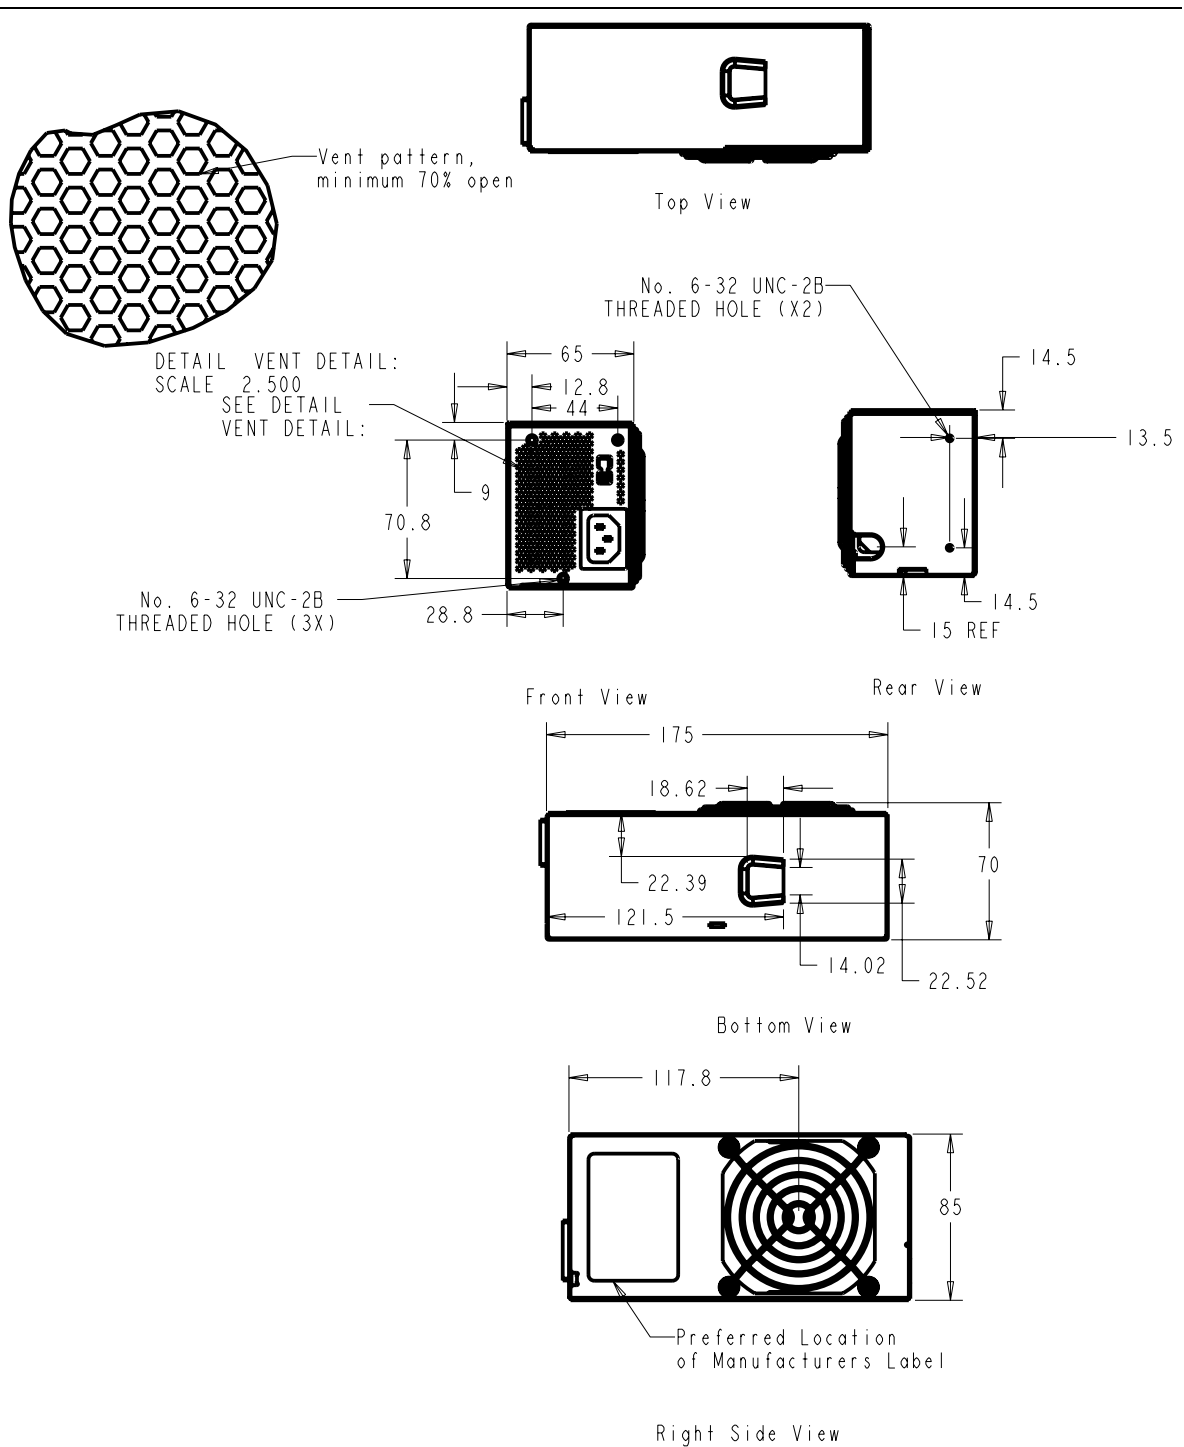
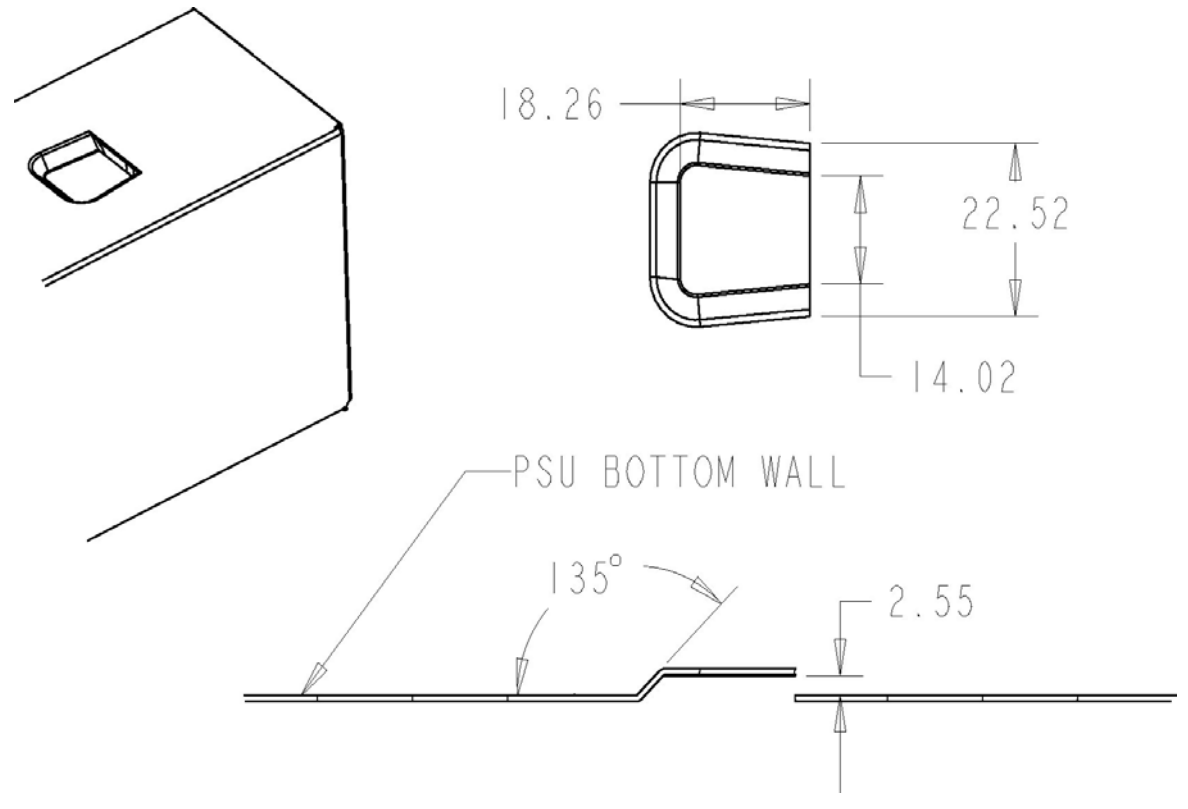
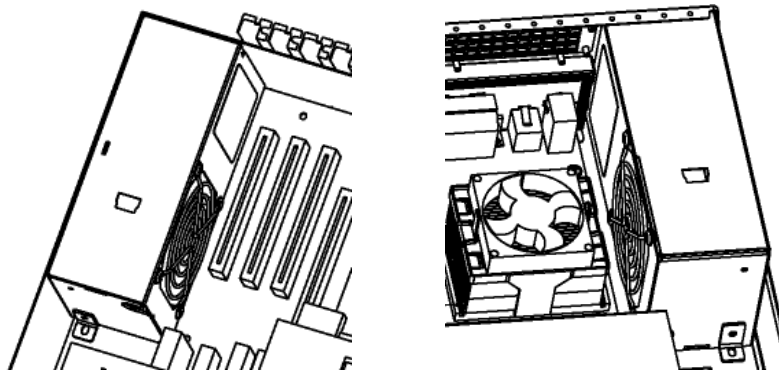

Figure 10. Power Supply Dimensions and Recommended Feature Placements (not to scale)
Figure 11. Power Supply Mounting Slot Detail
Figure 12. Fan Right and Fan Left Orientations of Power Supply in a Chassis
The power supply shall be enclosed and meet the physical outline shown in Figure 10, as applicable.
The TFX12V mechanical design provides two options for mounting in a system chassis. The unit can be mounted using one of the mounting holes on the front end (non-vented end) or a chassis feature can be designed to engage the slot provided in the bottom of the supply. In order to accommodate different system chassis layouts, the TFX12V power supply is also designed to mount in two orientations (fan left and fan right) as shown in Figure 12. A mounting hole and slot should be provided for each orientation as shown in Figure 10. Details of a suggested geometry for the mounting slot are shown in Figure 11.
Fan location/direction: In general, exhausting air from the system chassis enclosure via a power supply fan is the preferred, most common, and most widely applicable system-level airflow solution. The location of the fan can have a large effect on how efficiently this air is exhausted. The location of the fan shown in Figure 10 allows the fan to be located close to the processor cooling solution when used in the common fan left configuration shown in Figure 12. This close proximity of the fan will aid in the evacuation of heated air and helps keep the total system cooler.
Fan size/speed: The TFX12V power supply has an 80 mm axial fan as shown in Figure 10. It is recommended that a thermally sensitive fan speed control circuit be used to balance system-level thermal and acoustic performance. The circuit typically senses the temperature of the secondary heat sink and/or incoming ambient air and adjusts the fan speed as necessary to keep power supply and system component temperatures within specifications. Both the power supply and system designers should be aware of the dependencies of the power supply and system temperatures on the control circuit response curve and fan size and should specify them carefully.
Venting: In general, more venting in a power supply case yields reduced airflow impedance and improved cooling performance. Intake and exhaust vents should be as large, open, and unobstructed as possible so as not to impede airflow or generate excessive acoustic noise. In particular, avoid placing objects within 0.5 inches of the intake or exhaust of the fan itself. A raised wire fan grill is recommended instead of a stamped metal vent for improved airflow and reduced acoustic noise for the intake vent. Figure 10 shows the suggested TFX12V exhaust vent pattern.
- Larger openings yield decreased EMI-shielding performance. The suggested pattern in Figure 10 sufficiently shields EMI in most power supplies, but the design should always be tested as outlined in Section 6.1.